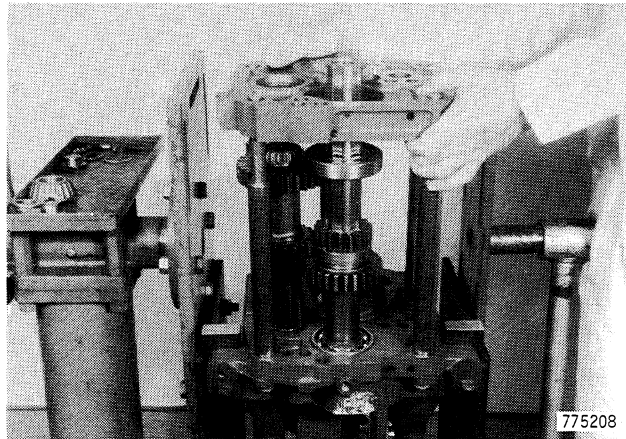

Figure 257
43. Remove separator plate, Figure 257.